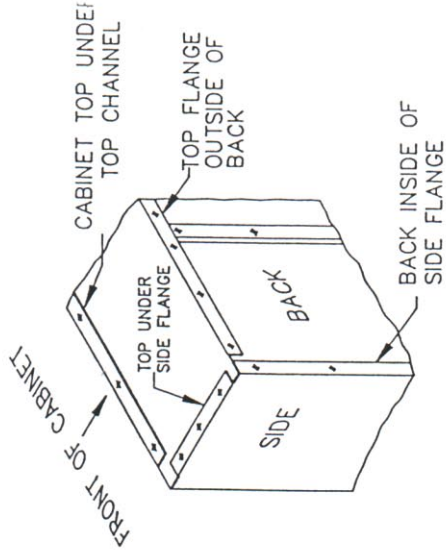
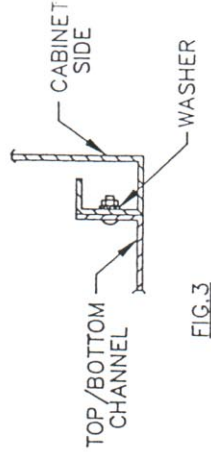

FIG.2
FIG.3
- 3 TAKE RIGHT HAND CABINET SIDE, PLACE ITS REAR FLANGE UNDER THE BACK AND TOP FLANGE OVER THE TOP. ALIGN HOLES AND BOLT IT TO BACK AND TOP. (FIG.1 & FIG.2)
- 5 SLIDE TOP CHANNEL OVER THE FRONT EDGE OF CABINET TOP. BOLT IT TO SIDES (1/4"-20 SCREWS) AND TOP. (FIG. 2 & FIG. 3).
- 6 BOLT THE BOTTOM CHANNEL TO THE SIDES WITH 1/4"-20 HARDWARE. (FIG.3)